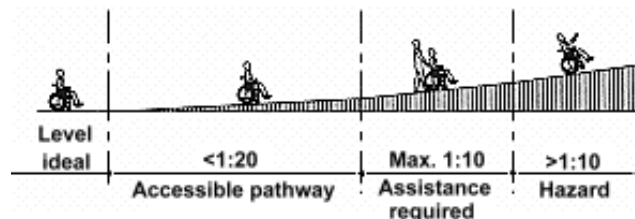

Fig. 4
■ The maximum recommended slope of ramps is 1:20. Steeper slopes may be allowed in special cases depending on the length to be covered (fig. 4).